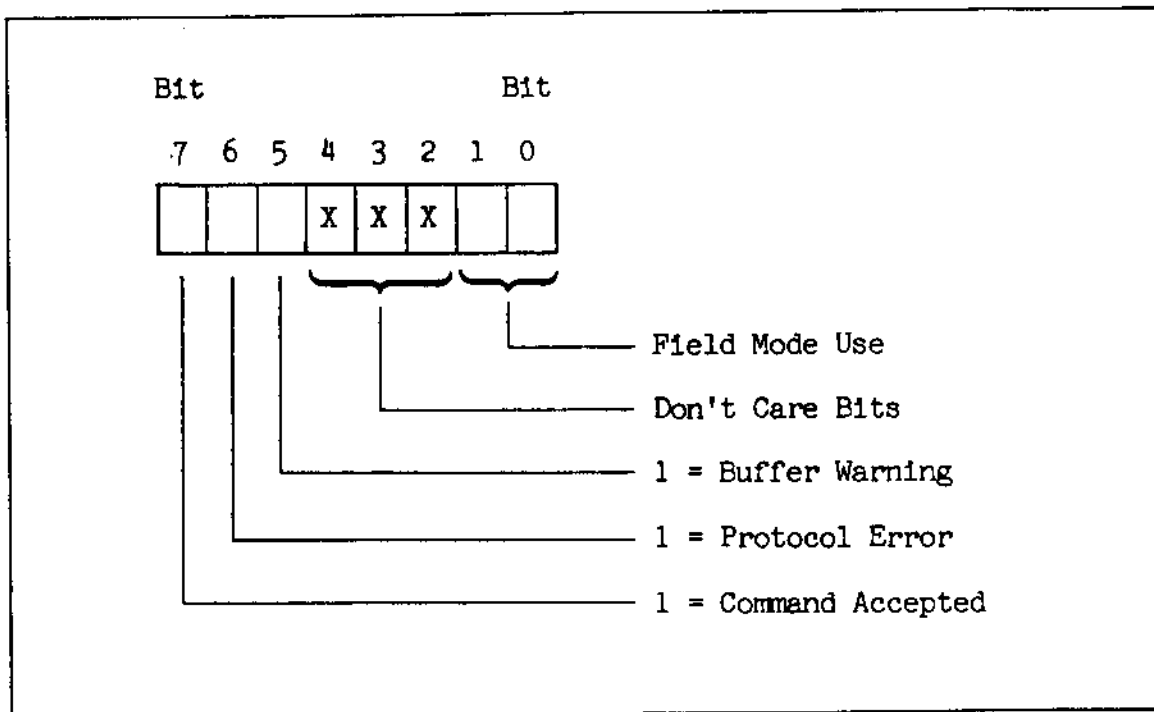

Figure 2-8. Second Byte of Status Message
The response to a write command is a two-byte status message. The first byte is the byte count which is 01H. The second byte is the switcher response to the command which is shown in Figure 2-8. The bits that are set to one (1) indicate the status.
In the Figure 2-8, bit 7 set to one (1) indicates the command was accepted and execution of it shall occur (if the EDITOR ENABLE is on). Bit 6 set to one indicates an illegal function may have been specified. Bit 5 set to one indicates the serial interface is nearing throughput capacity. Note that any combination of bits is valid except the Command Accept (bit 7) and the Protocol Error (bit 6) simultaneously set.